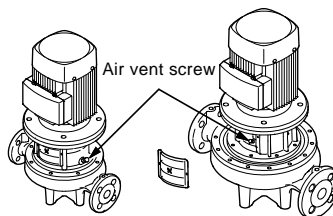

Fig. 13 Position of air vent screw
1. Close the discharge isolating valve and loosen the air vent screw in the motor stool. See fig. 13.
2. Loosen the air vent screw. See fig. 13.
See fig. 13.